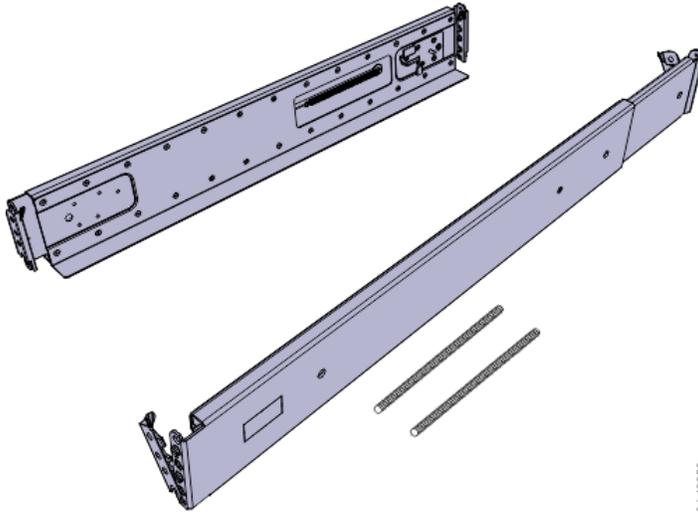

Figure 35. Expansion enclosure support rails
1. Locate the expansion enclosure rails (Figure 35 on page 76).